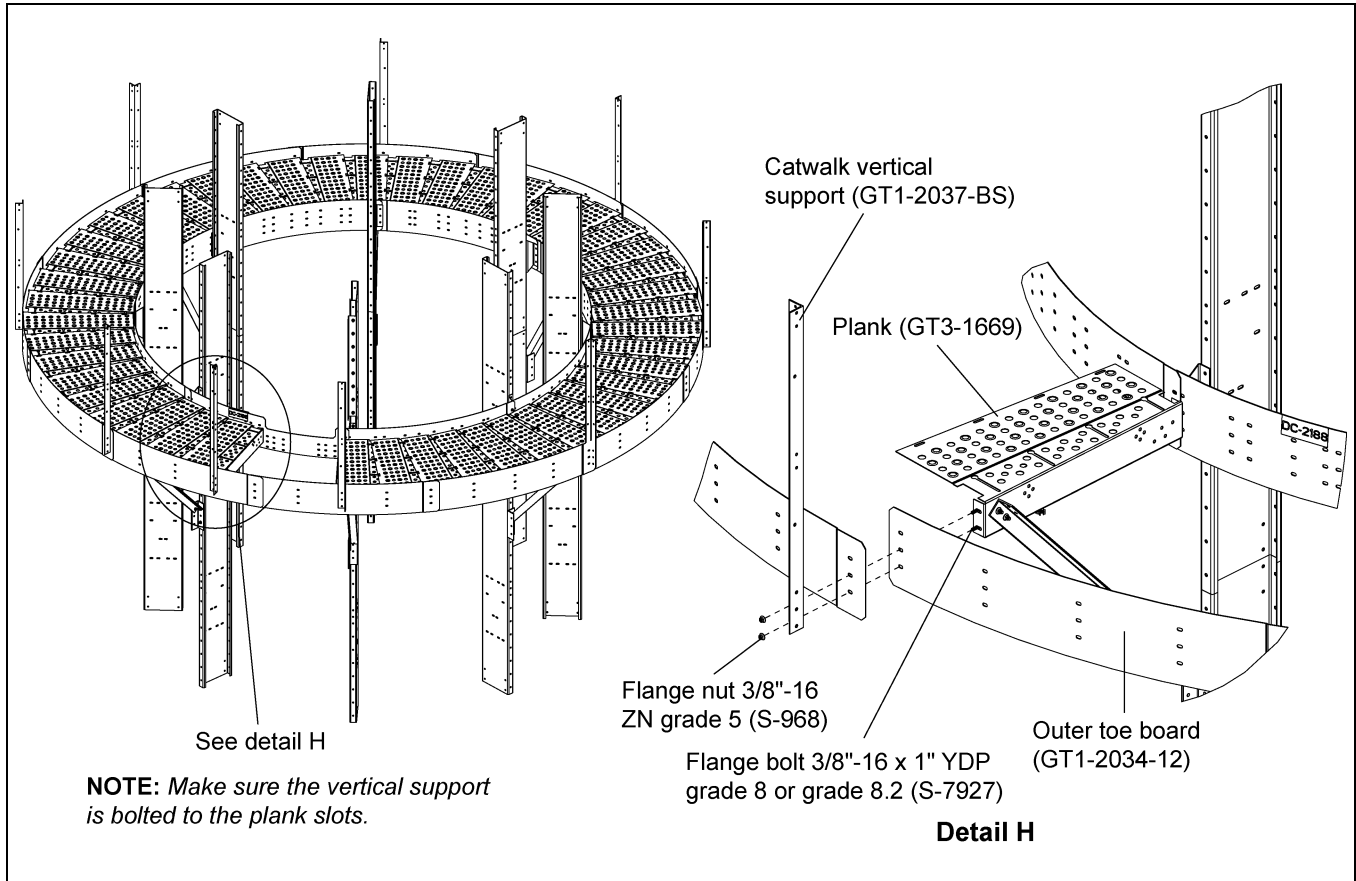
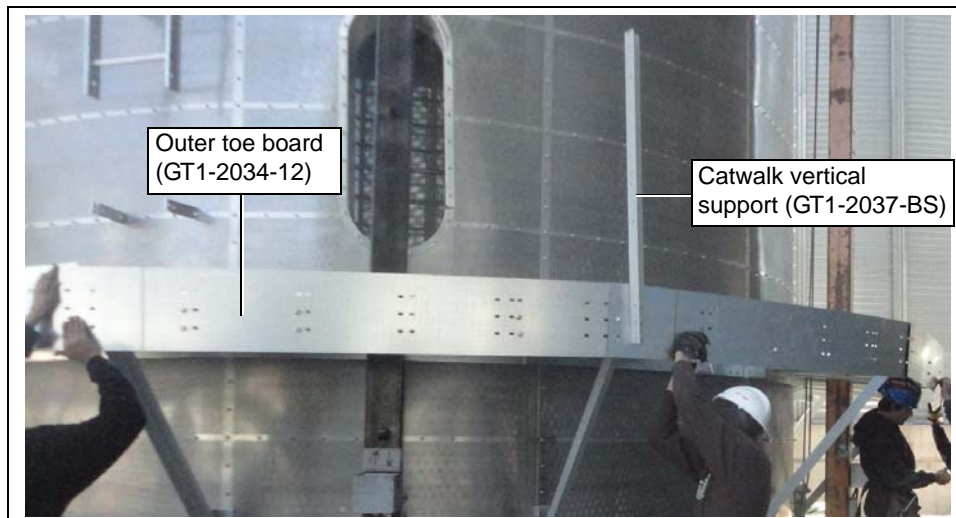

Figure 4R
Figure 4S
1. Install all the outer toe boards (GT1-2034-12) to the planks (GT3-1669). (See Figure 4R.)
2. When installing the outer toe board with planks, install the catwalk vertical support (GT1-2037-BS) simultaneously at proper locations using 3/8"-16 x 1" JS grade 8 or grade 8.2 bolts (S-7485) and 3/8"-16 ZN grade 5 nuts (S-968). (See Figure 4R and Figure 4S.)